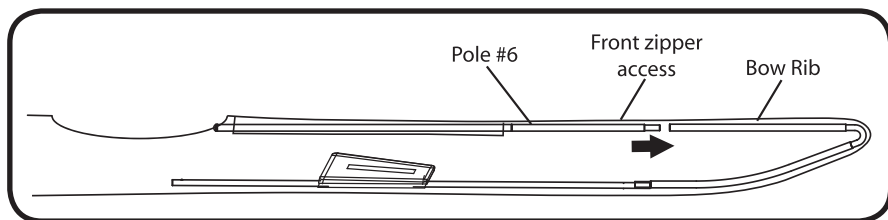

Figure 12
12. Slide pole #6 into place by inserting it into the sleeve that runs along the underside of the front deck. Slide pole #6 through this sleeve and connect it with the top portion of the bow rib. See Figure 12.